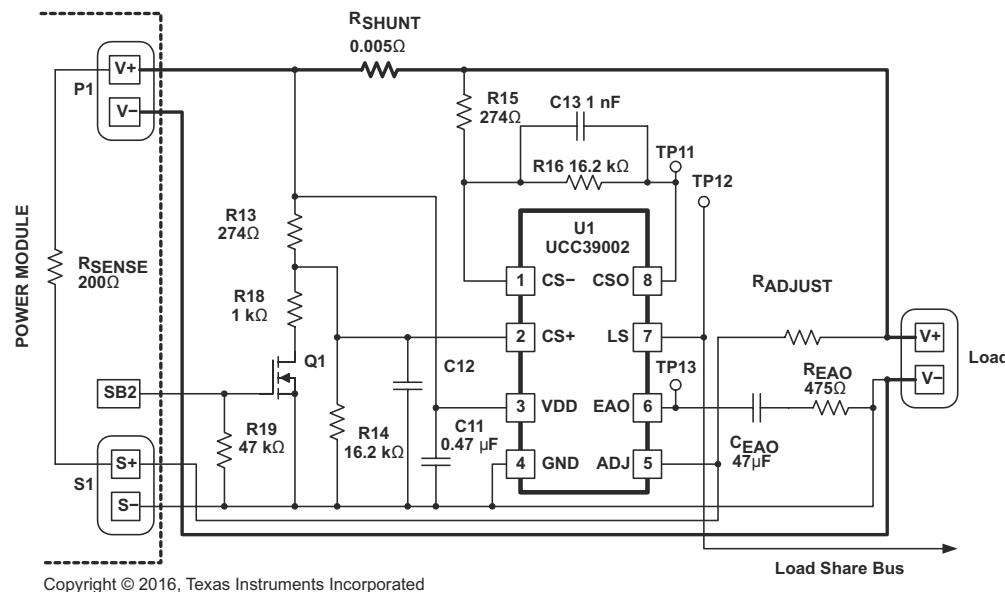

Figure 7-1. Typical High-Side Application for a Single Power Module
Figure 7-1 shows a typical high-side current-sense configuration for a single module which is repeated for each module to be paralleled. Direct connection of the VDD pin to the power module  $V_{OUT}$  rail ( $V+$ ) is valid for  $V_{OUT}$  less than 13.5V.
In 図 7-1, P1 represents the output-voltage connector terminals of the module and S1 represents the remote-sense connector terminals of the module. In this example, a signal on the SB2 terminal enables the disconnect feature of the device. The Load-Share Bus is the common bus between all of the paralleled load-share controllers. The VDD supply must be decoupled with a good-quality ceramic capacitor returned directly to GND.
Referring to 図 7-1, the DC gain of the CSA is equal to  $R_{16}/R_{15}$ , and a high-frequency roll-off pole used for noise filtering is set by  $C_{13}$ . These component values are repeated at  $R_{14}$ ,  $R_{13}$ , and  $C_{12}$  on the CS+ pin of the differential amplifier, as shown.
where (referring to 図 7-1)
- $A_{CSA}$  is the DC gain of the Current-Sense Amplifier. (R15, R16 refer to 図 7-1.)